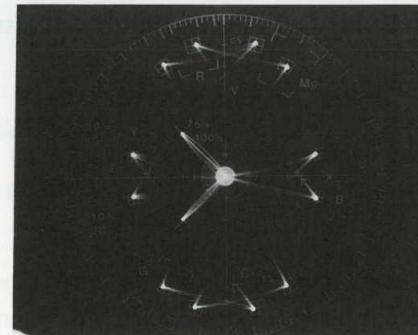

Fig. 4-10-1
- Adjust VR22 and VR25 by observing the Vectorscope so that each vector positions in each color area as shown in the Fig. 4-10-1.